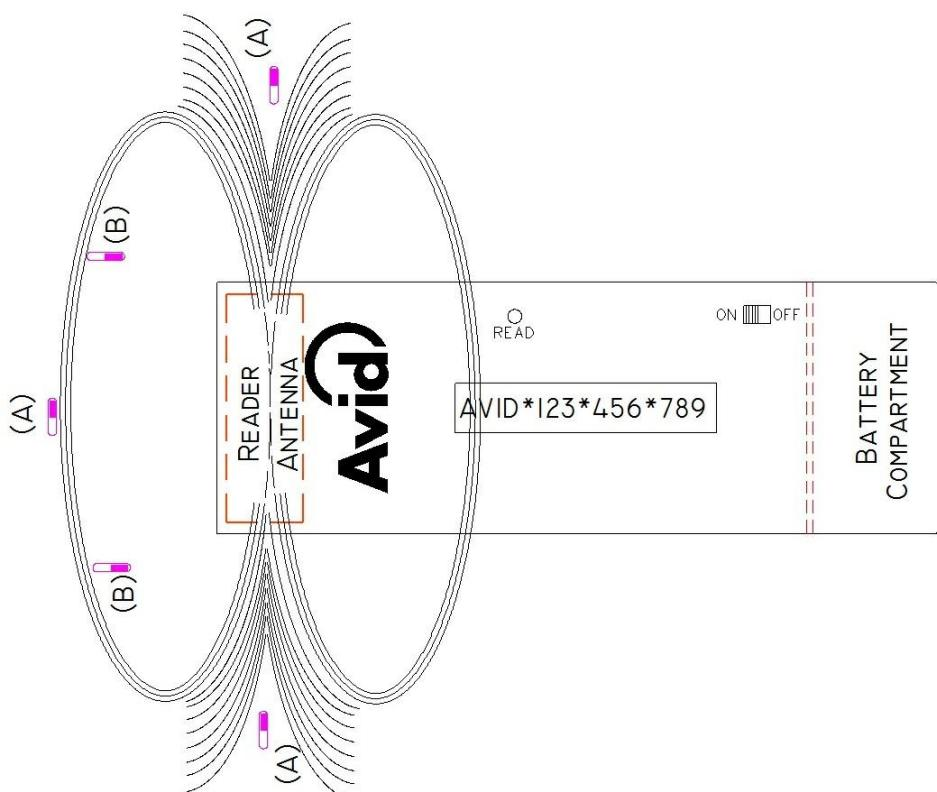

Figure 3
The reason for this scanning pattern is that chip orientation plays a major role in the optimum performance of the reader and reading distances. In Figure 3, below, CHIP(S) A, in a parallel orientation to the antenna, will achieve its maximum reading distance towards the center of the antenna or in parallel to either end of the antenna. CHIP(S) B, in the perpendicular orientation to the antenna, will achieve its maximum read distance towards the outside edges of the antenna. It is therefore recommended to move the antenna in a circular motion so that at some point you are energizing the chip with a greater magnetic field making it easier to find the microchip.